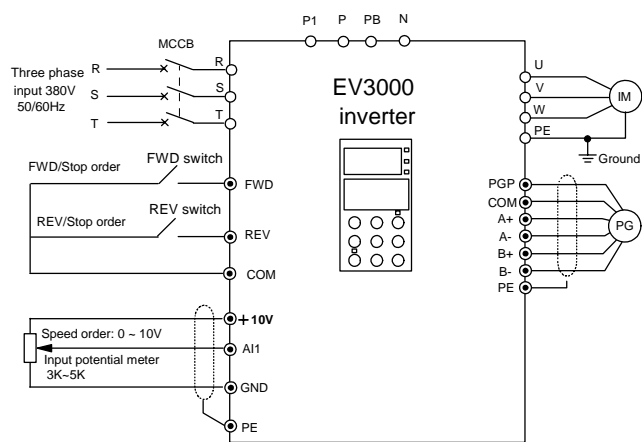

Figure 4-18 Basic wiring diagram 3
- 1) According to the wiring of Figure 4-18, check to confirm the correct cable connection, switch on the MCCB to supply power to the inverter;